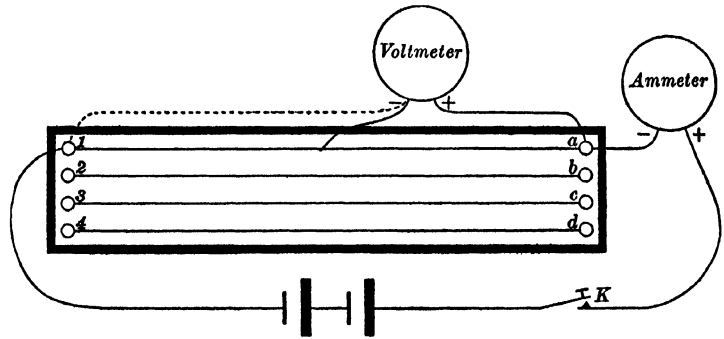

FIG 63
**I. Length.** (a) Connect two dry cells or a storage battery in series with a key, *K*, an ammeter, and 100 cm of No 30 German-silver wire (wire 1 of Fig 63) Close the key and record the ammeter reading and the voltmeter reading when the voltmeter is connected across 50 cm of the wire
**II. Diameter** (a) Determine the resistance of 100 cm of No 24 German-silver wire (wire 2 of Fig 63) Call this resistance  $R_2$
**III. Material.** (a) Determine the resistance of 100 cm of No 30 iron wire (wire 3 of Fig 63) Call this resistance  $R_3$
(b) Find the resistance of 100 cm of No 30 copper wire (wire 4 of Fig 63) Call this resistance  $R_4$